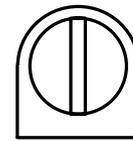

Fig. 3
*The link piece of the cock coupling must be parallel to the side walls of the Dosimat (see Fig. 3).*